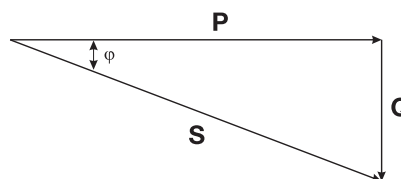

Figure 1.3 - Power Triangle (inductive load)
The power factor is indicated by $\cos \varphi$, where φ is the angle of voltage displacement relating to the current. It is the relationship between active (P) and the apparent power (S) (Figure 1.3).